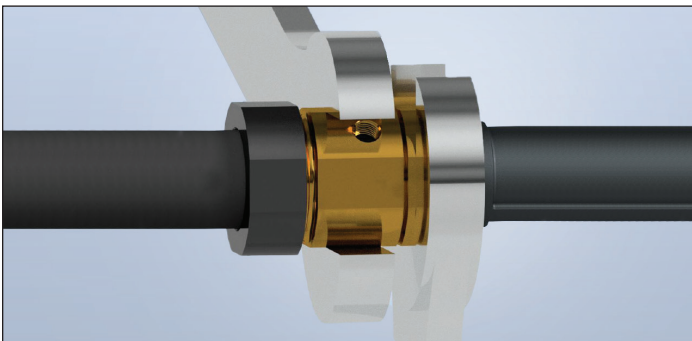

Figure: 1-11
13. Using appropriate wrenches, tighten the Flange Body assembly into the Front Pipe Flange to the torque values listed in Table 1. Note that **TracPipe PS-II** fitting is designed to form a leak tight seal on the stainless-steel tubing as the fitting is tightened (Figure 1-11). When fully tightened, there should be no threads visible between the Front Pipe Flange and the Flange Body.